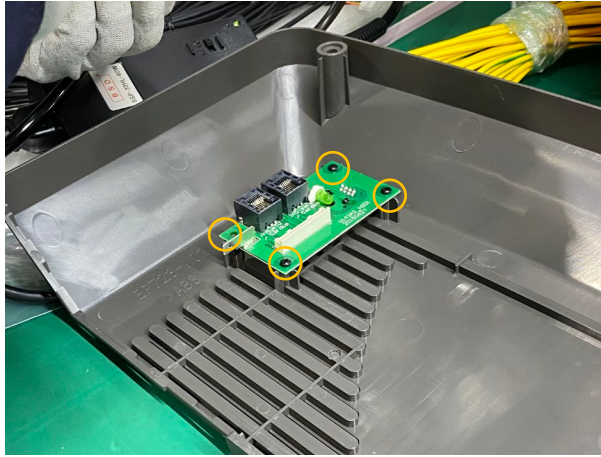

Figure 4
6. Use a Phillips screwdriver to remove the C-Safe exchange board (Fig. 4).